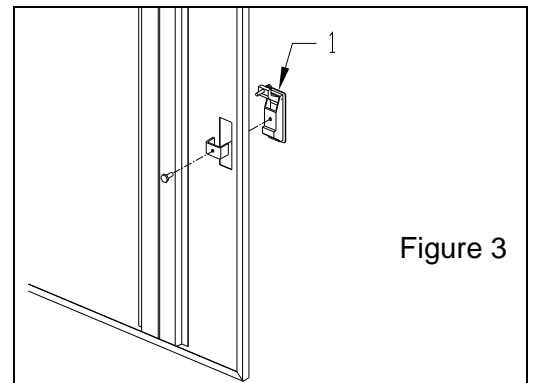

Figure 3
- Install Lever Latch. See Figures 3 and 4. Do not force the Lever Latch closed. Doing so may break Lever Latch. Assemble the Lever Latch beginning with the 1/4" dimension shown and increase length until Latch holds Doors securely.
- To disengage lock, insert and turn key 1/4 turn to the right. To open latch, push inward on chrome keypad.